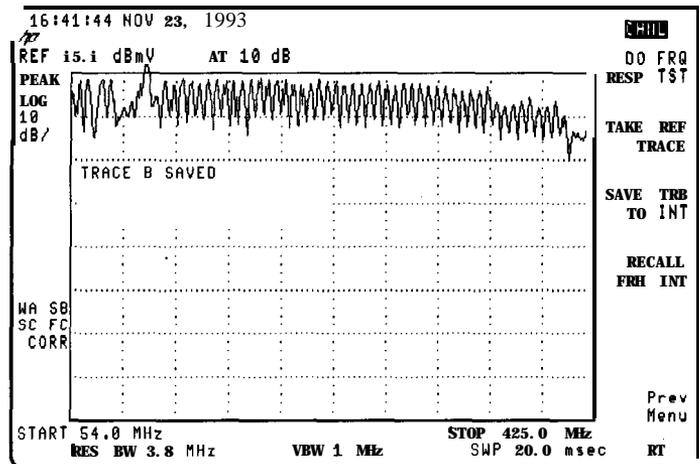

Figure 5-10. Trace B, Saved
3. Trace B is saved internally when the message TRACE B SAVED appears as shown in Figure 5-10.